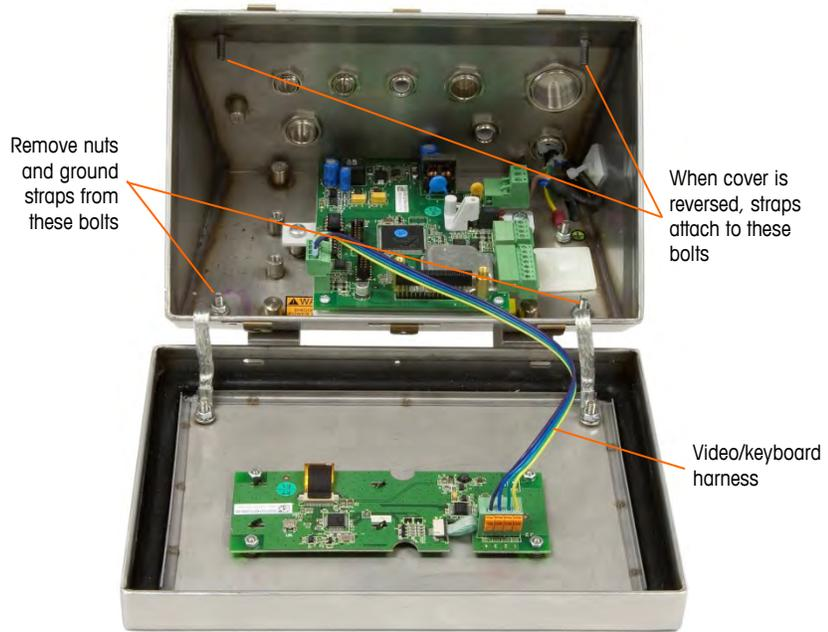

Figure A-20: Loosening the Ground Straps
To open the harsh enclosure, use a flat blade screwdriver. Push the blade into each of the two slots in the cover (indicated in Figure A-3) to compress the spring clip until the cover pops up. When both corners are free, press the cover upward until it clears the front edge of the housing. Then, press it backward until it unlatches the two remaining spring clips. Lift it carefully off the enclosure and swing it forward. The cover is attached to the enclosure by two strain relief/grounding cables, and is connected to the main board by the video/keyboard harness (see Figure A-20).
- B. Loosen and remove the two nuts securing the two grounding straps (that also operate as hinges for the front cover) to the rear housing. See Figure A-20.